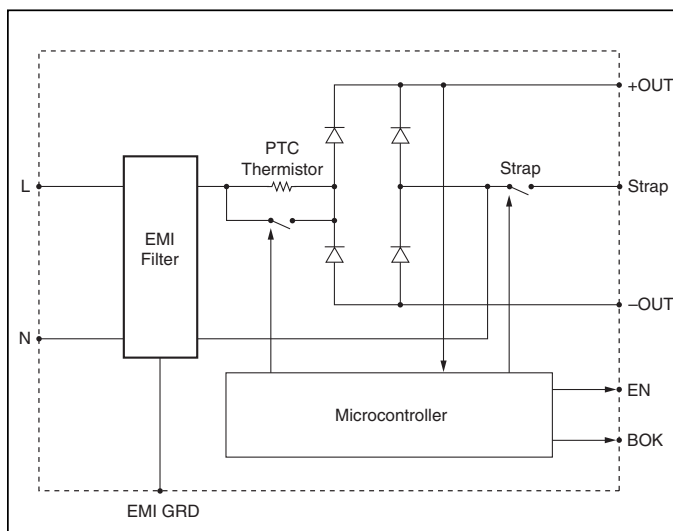

Figure 7 — Functional block diagram: autoranging rectifier
The switch that bypasses the inrush limiting PTC (positive temperature coefficient) thermistor is open when power is applied, as is the switch that engages the strap for voltage doubling. (see Fig. 7). In addition, the converter modules are disabled via the Enable (EN) line, and Bus-OK (BOK) is high.